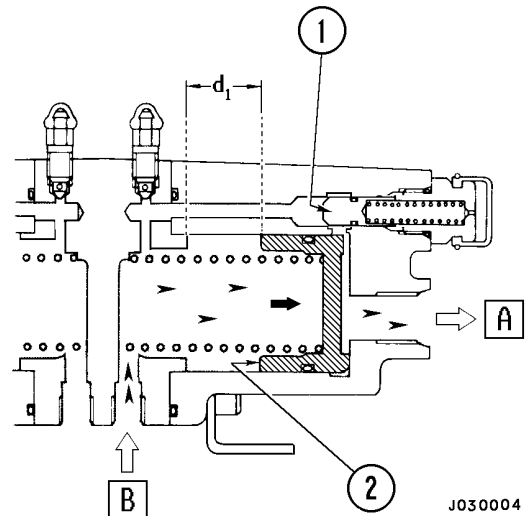

FIGURE 2-23. BRAKE PEDAL DEPRESSED
□ When brake pedal is depressed (Figure 2-23):